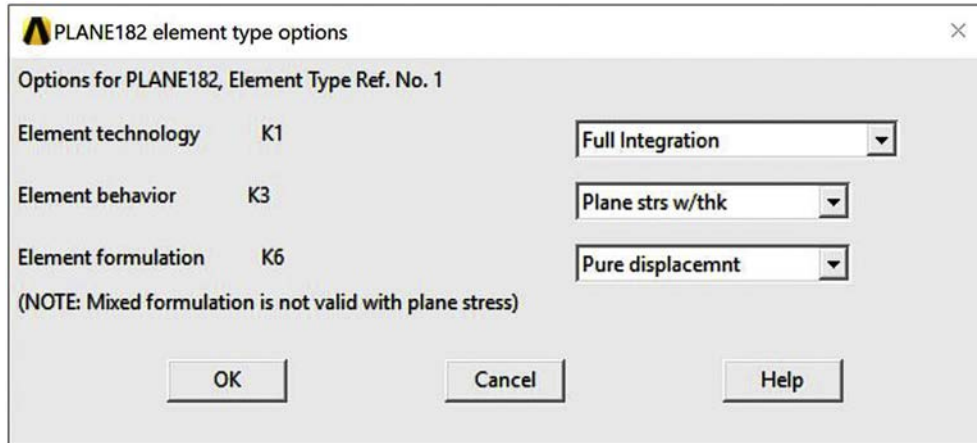

Figure 4-2-1 Element Options Dialog Box.
- For “Element behavior K3” choose “Plane stress w/thk” (Figure 4-2-1)